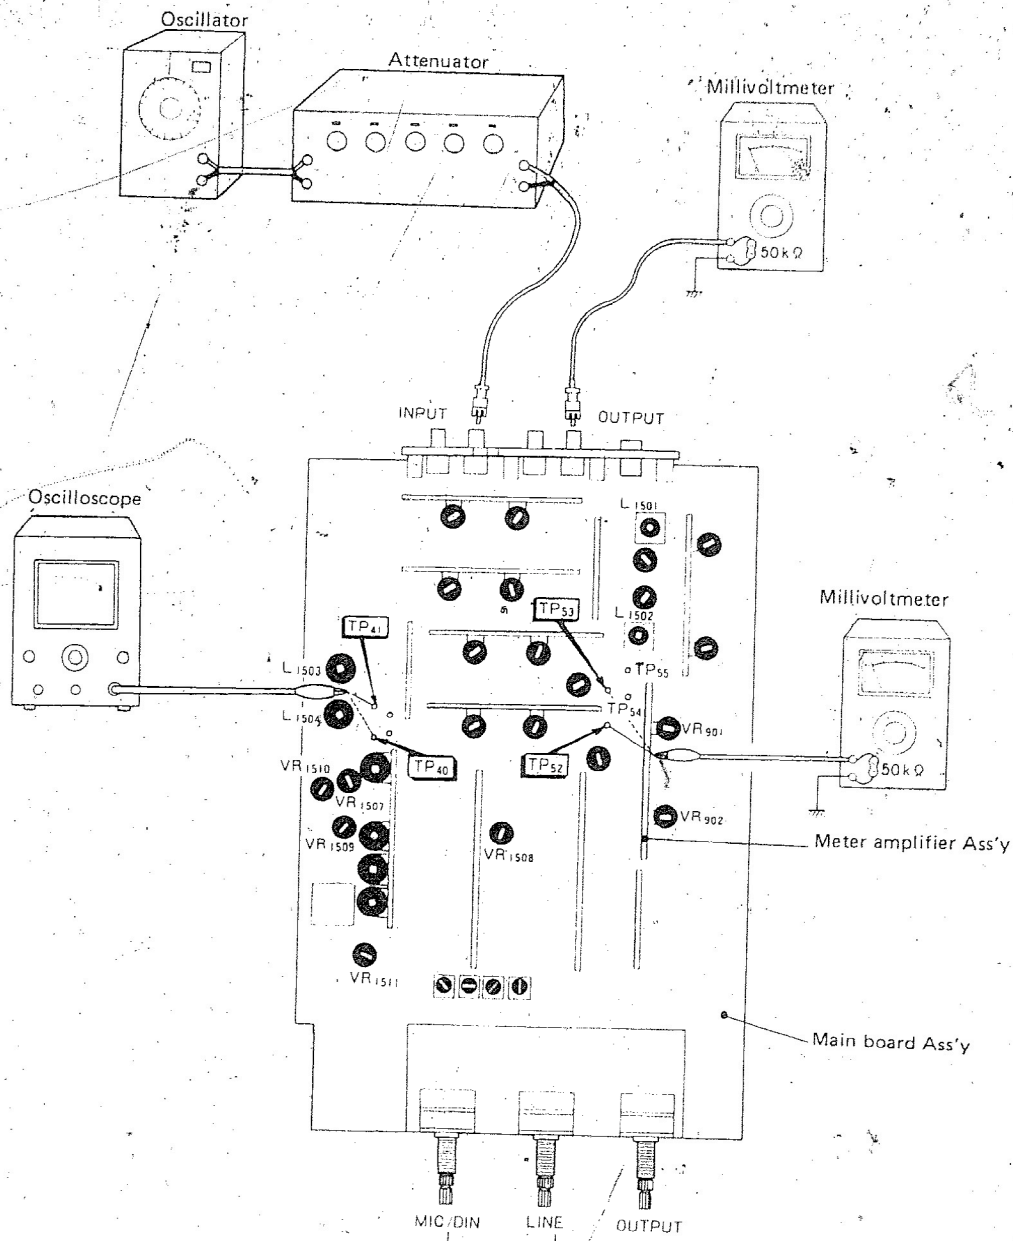

Fig. 27
1. Connect meters to the T.P. terminals No.53 (L. ch) and No.52 (R. ch) of the main board as shown in Fig. 27. Also connect both meters to ground.
1. Connect oscilloscopes to T.P. terminals No.40 (L. ch) and No.41 (R. ch) on the main board as shown in Fig. 27.
1. Apply the 333Hz,  $-10\text{dBv}$  ( $316\text{mV}$ ) signal to the input terminals. Connect a meter to the output terminals, and adjust the line volume control so that the voltage reads  $-7\text{dBv}$  ( $447\text{mV}$ ) (see Fig. 27).
1. Connect a meter to the line output terminals, and then apply a 333Hz, -30dBv (31.6mV) signal to the input terminals (see Fig. 27).
1. Connect a meter to the output terminals, and apply a 333Hz, -10dBv (316mV) signal to the input terminals. (See Fig. 27).
1. Connect a voltmeter to the output terminals, and apply the 333Hz, -10dBv (316mV) signal to the input terminals (see Fig. 27).